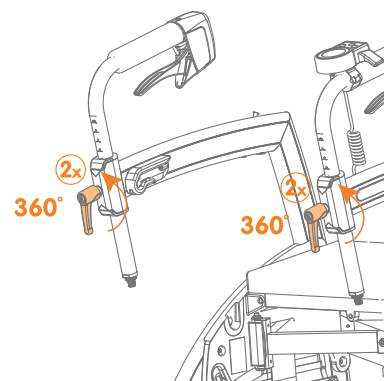
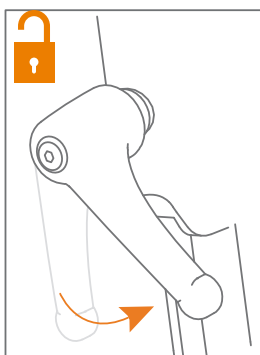

Figure 22: Loosen the adjustment handles.
Figure 23: Rotate counterclockwise.
- Loosen the adjustment handles counterclockwise (**Figure 22**) and (**Figure 23**).